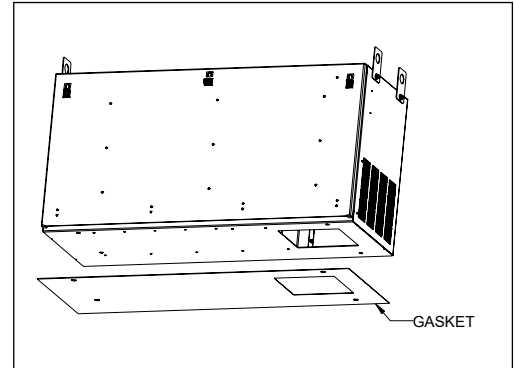

Figure 12 Gasket Installation
3. Install the gasket by positioning it on the pad so that it is underneath the bottom of the CUBE when the cabinet is installed. Line up the gasket so that the cutouts are in proper position around the conduit opening and over the anchor bolts as shown in Figure 12